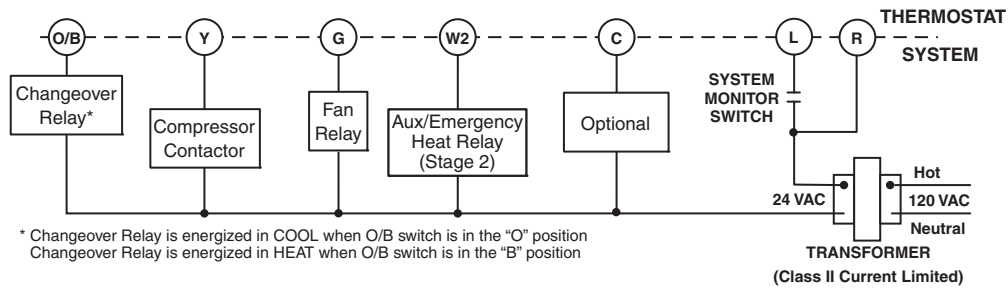

Figure 2. Typical wiring diagram for single transformer systems
6. Connect wires to terminals on base using appropriate wiring schematic (see figs. 2 through 4).